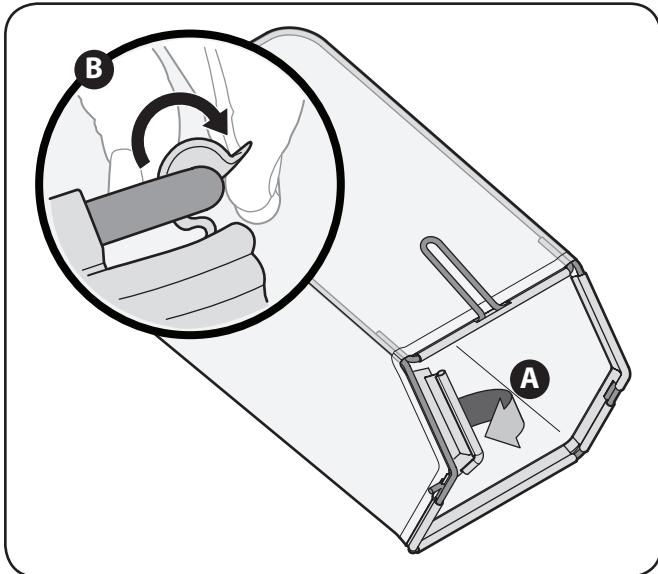

Figure 3-7
b. Slip plastic channel of grass bag over hooks on the frame. See Fig. 3-7.